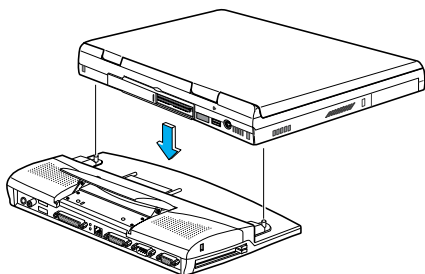

Figure 4. Placing the system on the Mini Dock
4. Place your notebook PC on the Mini Dock.(Figure 4)